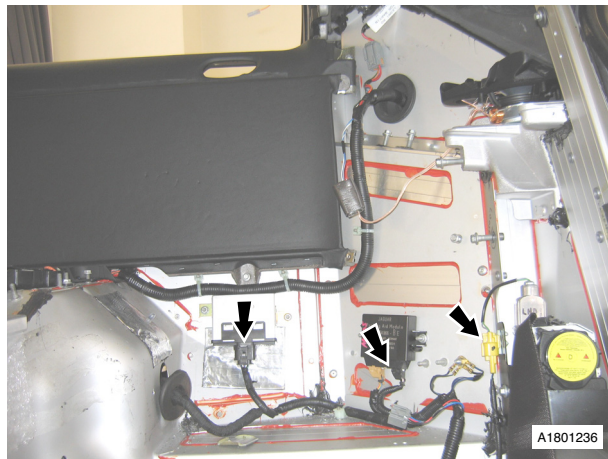

Fig. 19
54. Disconnect LH tailgate harness multiplug (clipped to body) (see Fig. 19).